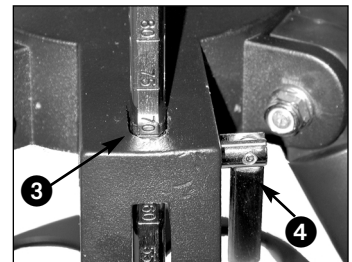

Fig. 4: Set latitude.
4. Determine the latitude of your observing location from a road map, atlas, or the **LATITUDE CHART FOR MAJOR CITIES OF THE WORLD**, provided in your ETX manual. Loosen the latitude control latch (4, Fig. 4) and adjust the latitude control bar (3, Fig. 4) so that your observing site's latitude is just visible above the flat surface of the tripod head. Retighten the latch. (See Fig. 4.)
3. Unlock the latitude control latch (4, Fig. 4) and lower the tilt-plate until it is level (push the tilt-plate down until it stops; this is the level position). Lock the latitude control latch. (See Fig. 6.)